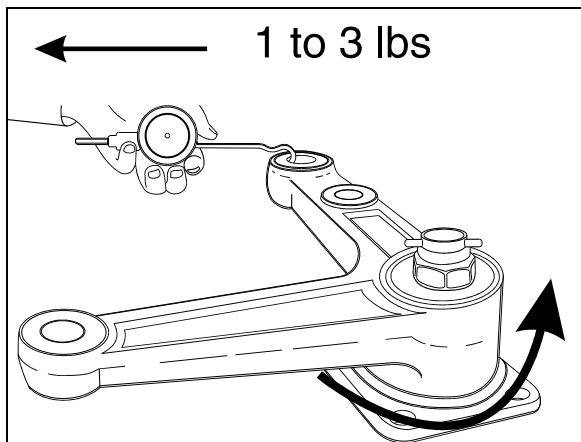

FIGURE 26: BELL CRANK
4. Unscrew nut until bell crank or idler arm starts to turn by the application of 1 to 3 pounds load (Fig. 26).